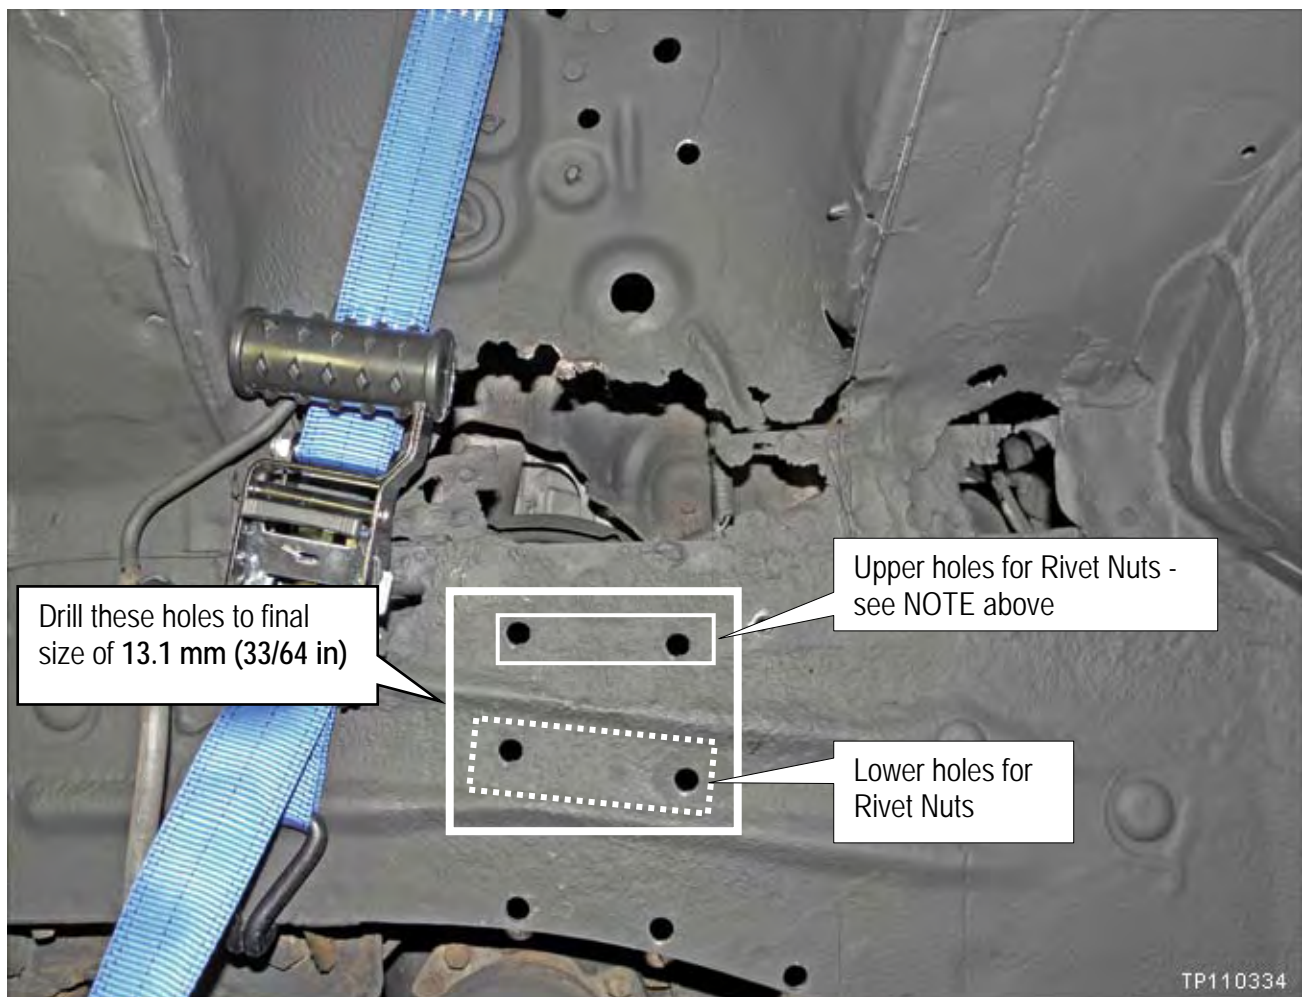

Figure RB10
21. For the 4 holes that will have Rivet Nuts installed, drill final hole size to **13.1 mm (33/64 in)**. See Figure RB10.
22. Install Rivet Nuts in the 13.1 mm (33/64 in) holes (see Figure RB10).
- **Lower holes - Required:** Rivet Nuts are required in the lower holes (indicated with dashed line in Figure RB10).